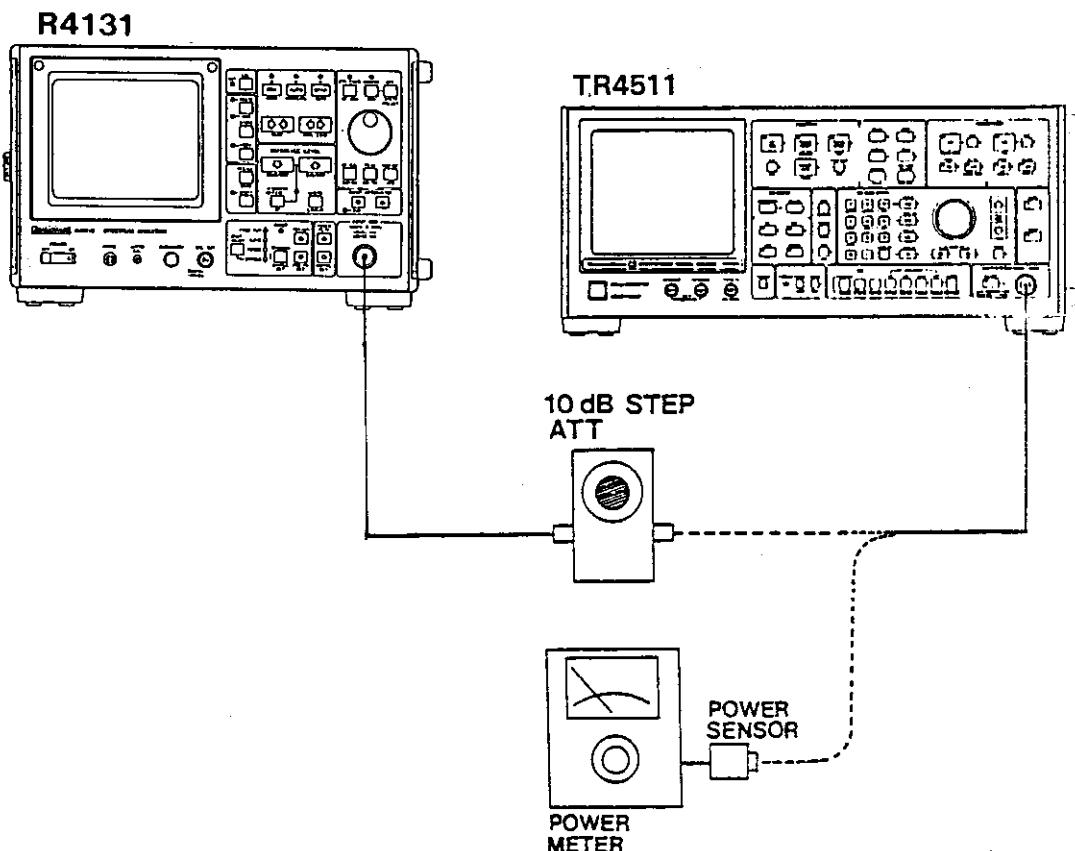

Figure 11-18 Gain Compression Test Setup
(2) Set the output frequency of the synthesized signal source to 200 MHz (CW) and connect it to the power meter, adjusting the synthesized signal source for 0 dBm output.
(3) Set the 10 dB step ATT to 10 dB and connect it to the spectrum analyzer as shown in Figure 11-18.